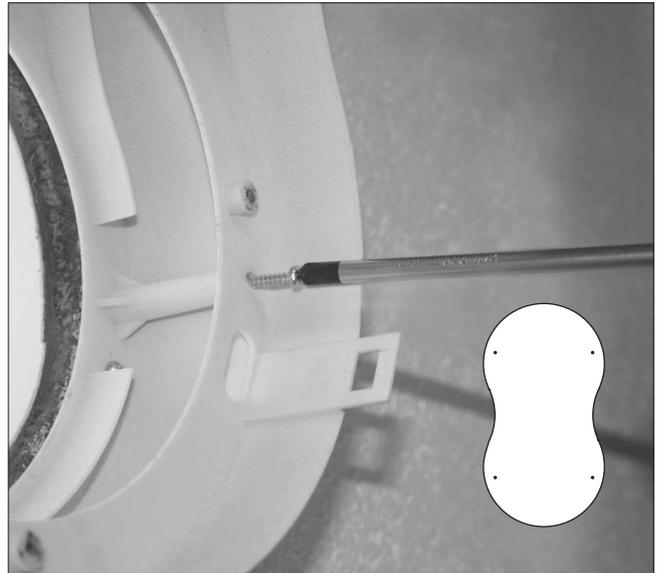

Fig.7B
- Now securely fix the centre assembly to the rear assembly together on the 4 fixing points using the screws provided (Fig.7B).